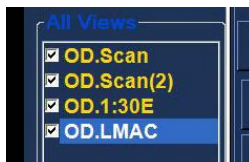

Figure 5.30 - LMAC Scan Labeled
2. The macula scan will appear in the All Views list as the label you assigned to the scan. In Figure 5.30, the new labeled scan is OD.LMAC